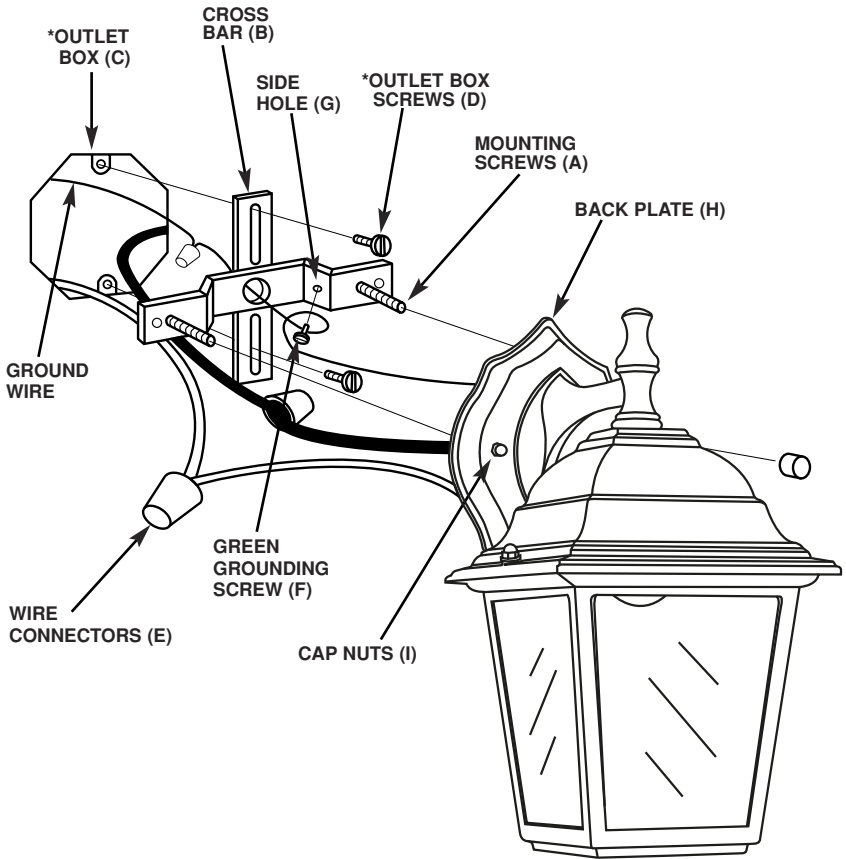

FIGURE 1.
2. Thread mounting screws (A) into cross bar (B) with mounting screws protruding away from outlet box (C) (see figure 1).
3. Secure cross bar (B) to outlet box (C) with outlet box screws (D) (not included).
8. Partially thread green grounding screw (F) into side hole (G) of cross bar (B) (see figure 1).
9. Wrap ground wire from fixture around green grounding screw (F) leaving enough excess wire to then connect ground wire and outlet box wire with wire connector (E), if applicable.
10. Tighten grounding screw (F). Do not over tighten.
1. Tuck wires inside outlet box (C) (see figure 1).
2. Place back plate (H) over mounting screws (A).
3. Secure into place with cap nuts (I).